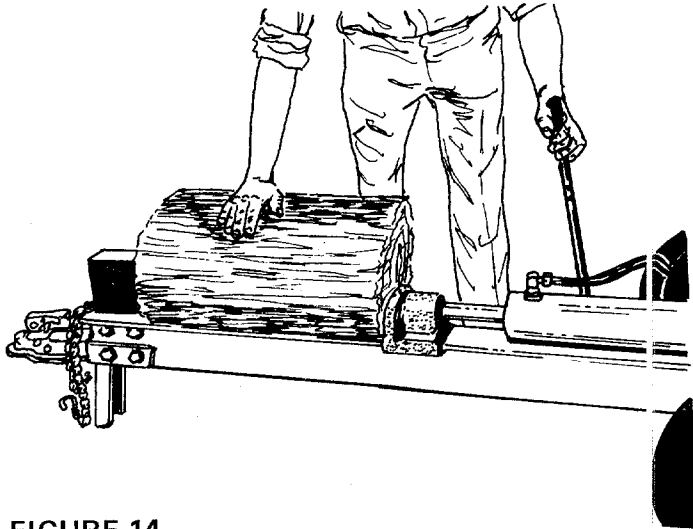

FIGURE 14
2. Place log on beam and hold in place with right hand. See figure 14.